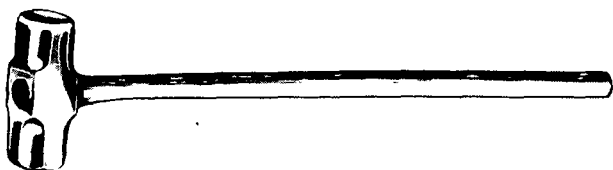

Figure 14. Blacksmith's double-faced sledge.
d. *Blacksmith's Double-Face Sledge.* The blacksmith's sledge (fig. 14) is a steel-headed heavy-duty tool. The weight of the sledge, 8 pounds, makes it ideal for driving heavy spikes